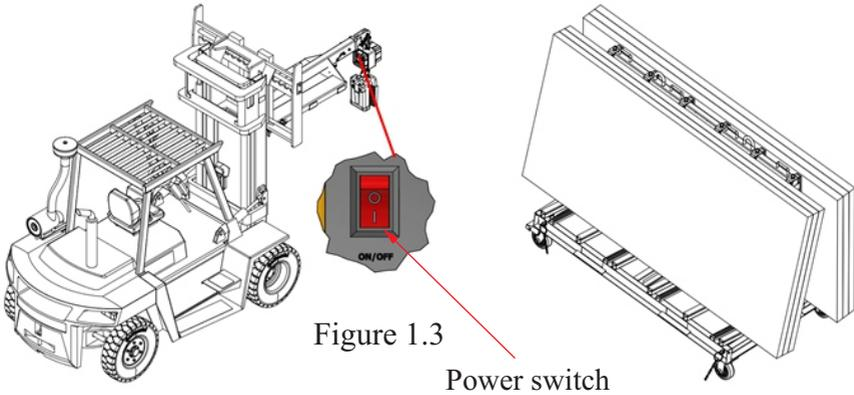

Figure 1.3
**Step 3.** Turn on the power switch and move to the location where the material slab needs to be handled (Figure 1.3).